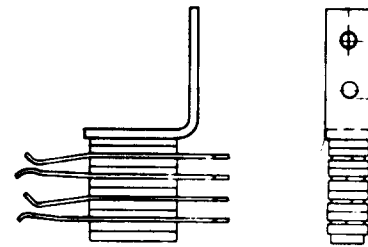

Fig. 19—349A or B Jack
2.19 349A and B: These multicontact jacks (Fig. 19) are used with the 240A or similar-type plugs. These jacks consist of a metal bracket on which there are mounted two pairs of contact springs insulated from each other. These jacks are designed primarily for terminating tests or talking lines in step-by-step switching systems.